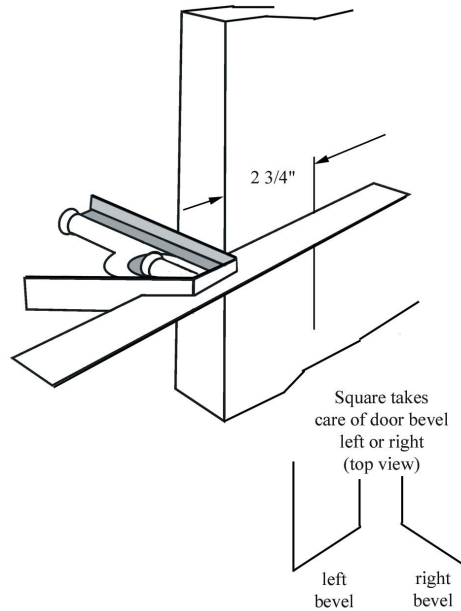

Figure 2-8 – Marking 2 ¾" Setback with Square
- 2.5.1.2.2 Using a square (to compensate for beveled door edges), mark a point along the horizontal line 2¾" from the door edge on both sides of the door (Figure 2-8).